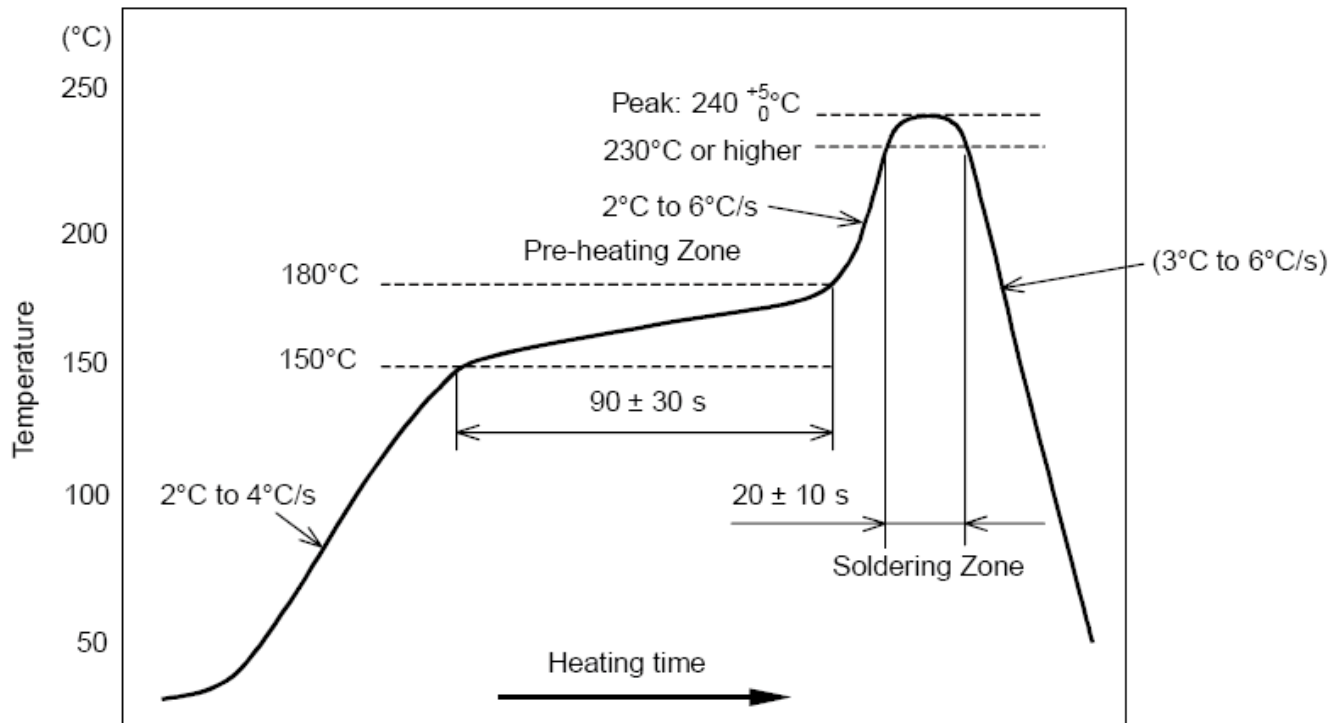

Figure 7-1. Temperature Profile for Evaluation of Solder Heat Resistance of a Component (at Solder Joint)
2. Temperature measurement: Thermocouple d = 0.1 mm to 0.2 mm CA (K) or CC (T) at soldering portion or equivalent method.
4. Allowable reflow soldering times: 2 times based on the following reflow soldering profile (see Figure 7-1).
5. Temperature profile: Reflow soldering shall be done according to the following temperature profile (see Figure 7-1).